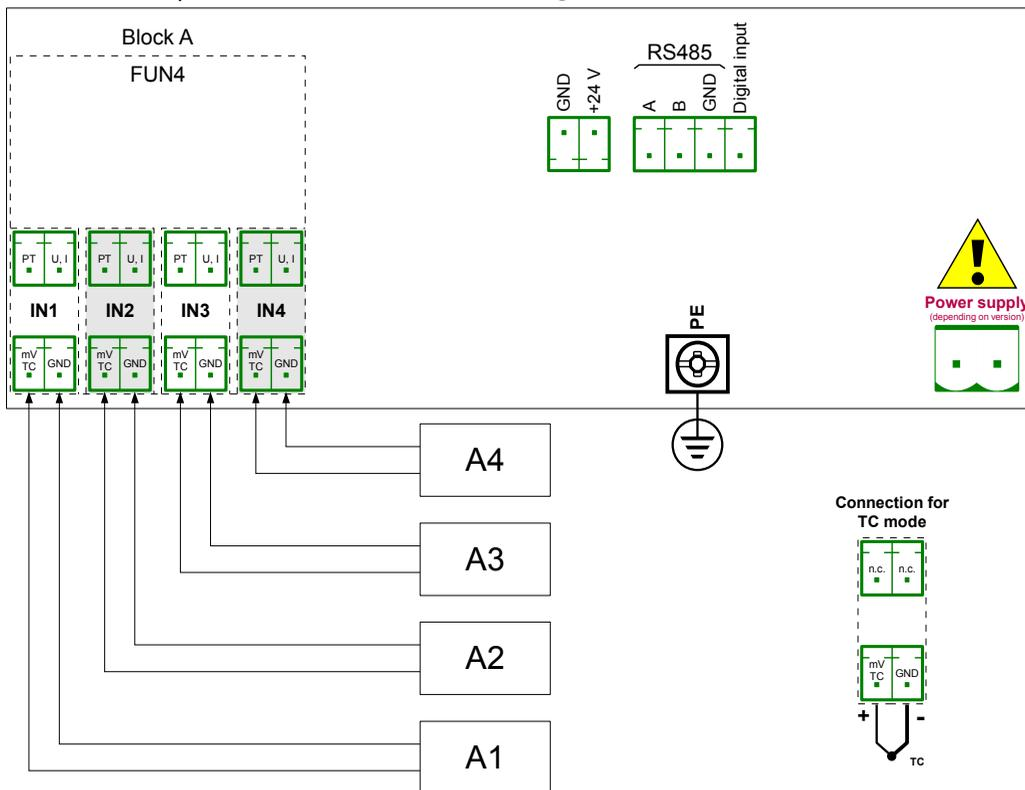

Fig. 7.64. Schematic diagram for the FUN4 hardware configuration
Before measuring temperature the thermocouple sensors should be connected to the device. An example of the connection is shown in **Fig. 7.64**.
- Source parameter set as **Inp. A1: Universal** (see the connection in **Fig. 7.64**),
- **Source** parameter set as **Source - Inp. A2: Universal** (see **Fig. 7.64**),
- Source parameter set as **Source - Inp. A3: Universal** (see **Fig. 7.64**),
- Source parameter set as **Source - Inp. A4: Universal** (see **Fig. 7.64**),